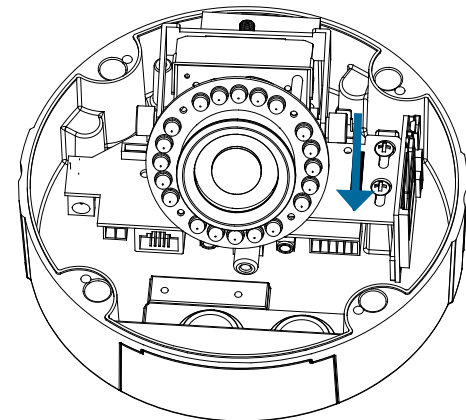

Figure 1.2
3. Slide the camera bracket towards the front of the camera base. (Figure 1.2)